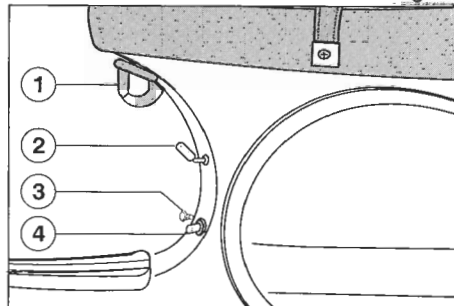

Fig. 13
**Choke knob** (fig. 13): Located below the seat. To be used for starting the engine when it is cold. Pull the choke knob outwards for operation. It should be pressed back when the engine has started running.